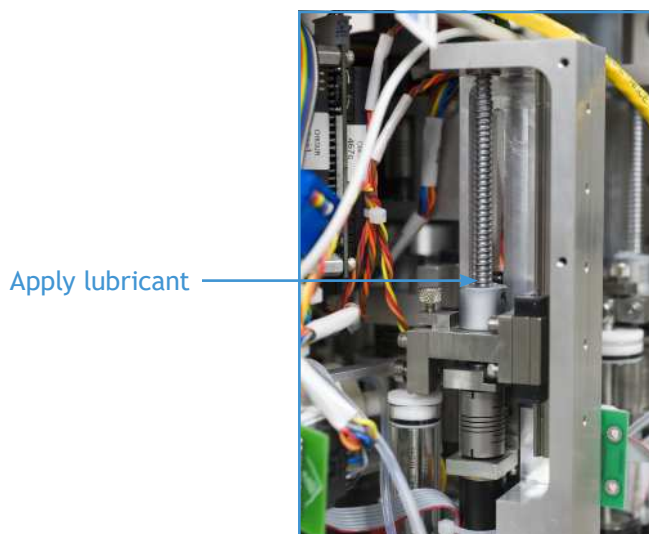

Figure 1-5: Ballscrew
1. Apply a small amount of lubricant to the shaft of the ballscrew, just above the nut. See Figure 1-5.